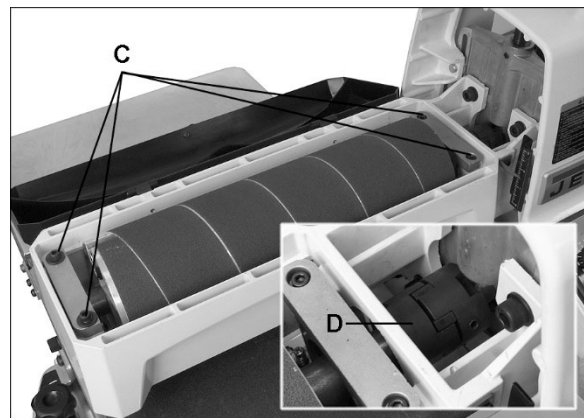

Figure 10-2: drum removal
Remove four socket head screws (C, Figure 10-2). Carefully lift out drum with coupling (D) attached.